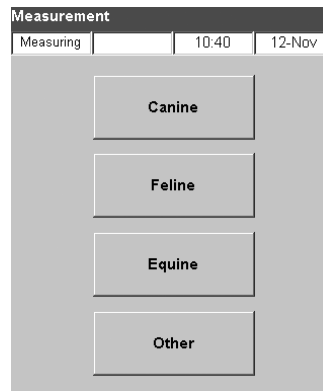

Figure G-5: Measurement > Select Patient Species screen
- Select the species (Figure G-5).